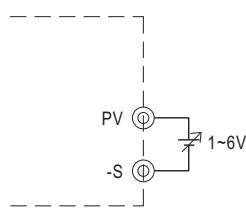

Fig. 3.1 Add on 1~6V external voltage
(1) Connecting an external DC source between PV and -S on CN1 or CN2 that is shown in Fig. 3.1.